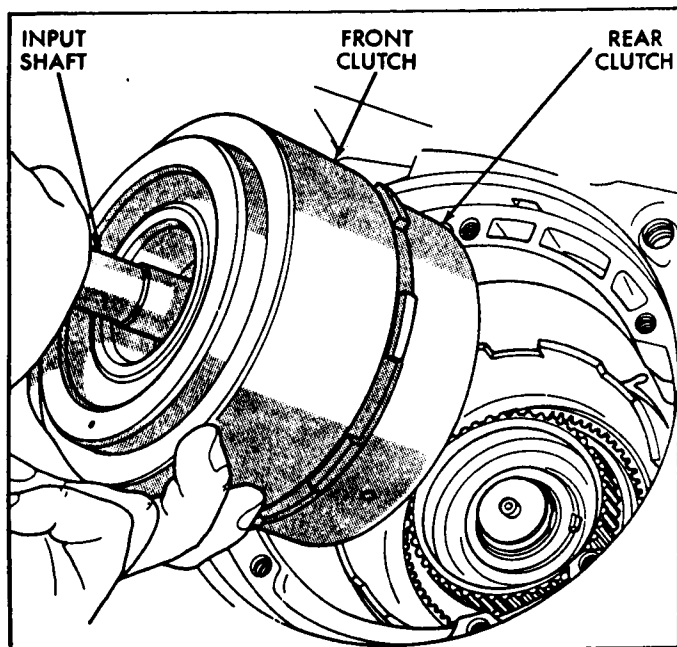

Figure 136
20. Install the preassembled front and rear clutch housing assembly into the case, as shown in Figure 136.